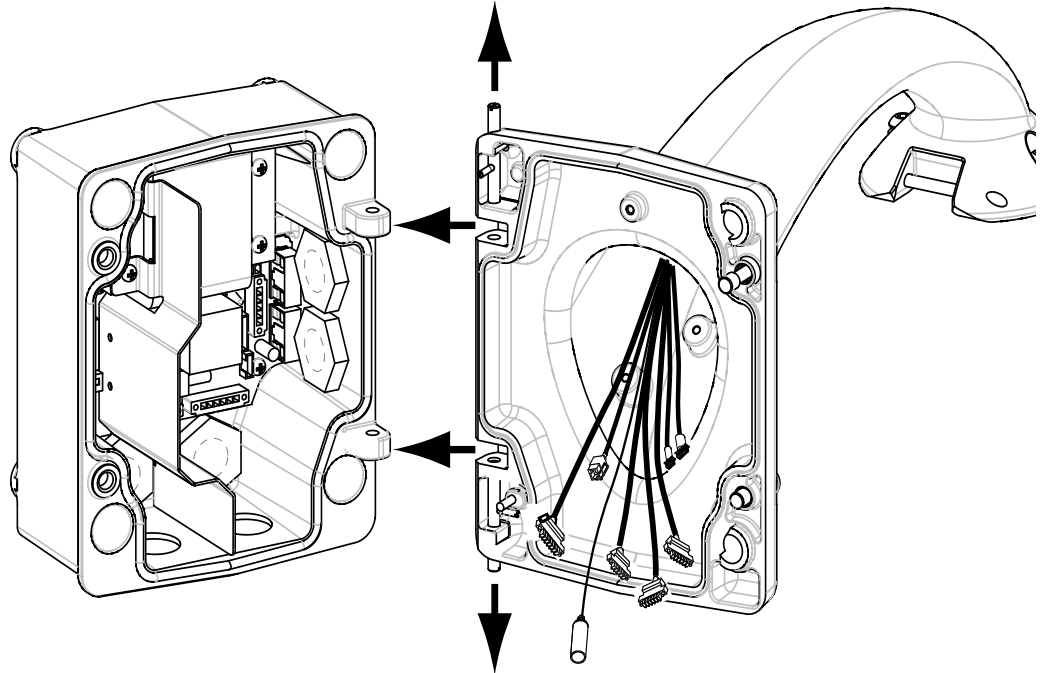

Figure 2.9 Pendant Arm to Power Box Hinge Alignment
3. While continuing to hold the top hinge pin open and align the top and bottom hinges of the Pendant Arm to their mating points on the Power Supply Box. See *Figure 2.9*, above, for an illustration.